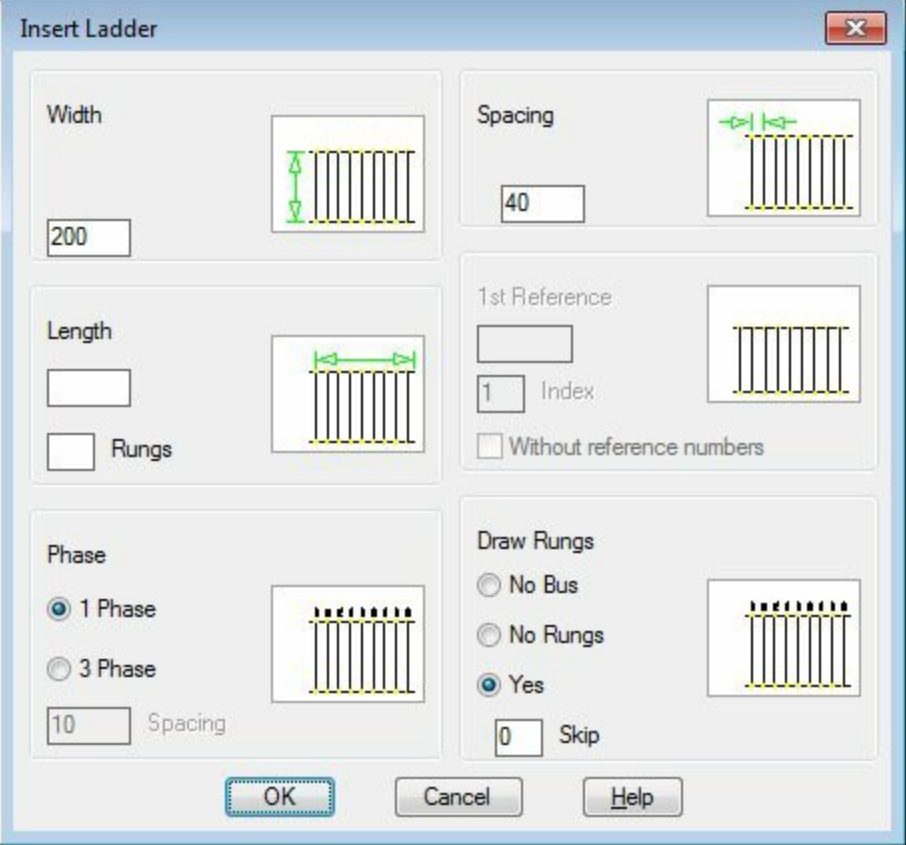

Figure-8. Insert Ladder dialog box
- Click on the **Insert Ladder** button from the **Ladders** drop-down in the **Insert Wires/Wire Numbers** panel. The **Insert Ladder** dialog box will be displayed; refer to Figure-8.